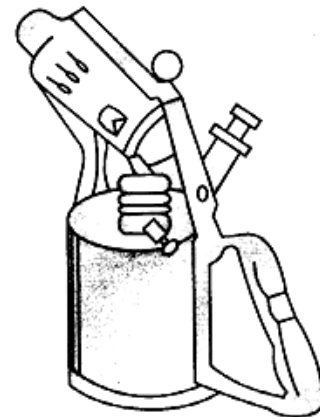

Fig. P-1.10. A blow lamp.
10. Blow lamp : It is used for soldering brazing and heating purposes. Its construction is similar to cooking stove with a brass tank burner and pump. Kerosene oil as fuel is used and flame can be used in any direction. Fig. P-1.10 shows a blow lamp.